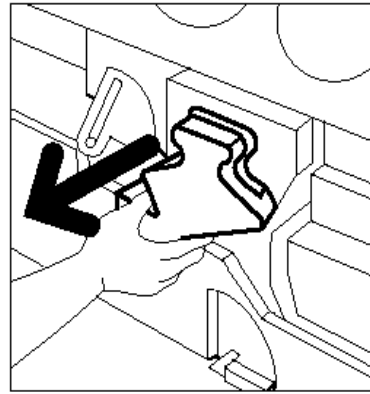

Figure 19: Removing the old Developer Waste Container
- 4** Grasp the Developer Waste Container with your right hand. Pull the Developer Waste Container completely out of the copier/printer, as illustrated in Figure 19.